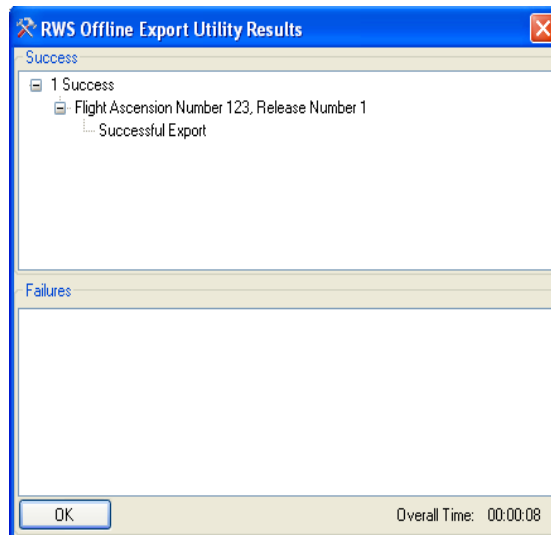

Figure A-7: RWS Export Utility Results
9. Click **OK** to export flights. All selected flights will be exported. The *RWS Offline Export Utility Results* window will display when the export is complete (Figure A-7).